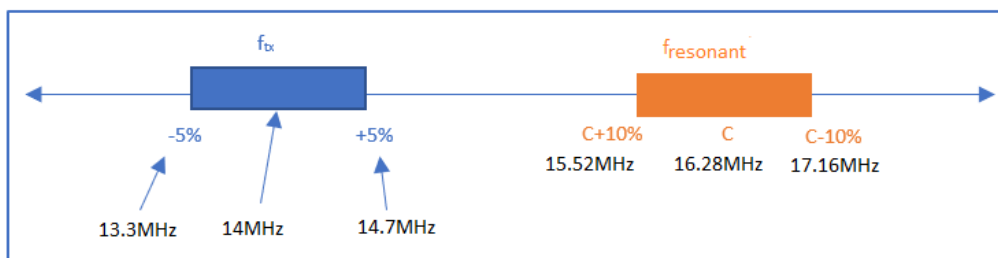

Figure B.1: Inductive Resonant Tank Design
- > Using $\pm 10\%$ tolerance on C_{sel} and $f_{resonant} = \frac{1}{2\pi\sqrt{L \times C}} = \frac{1}{2\pi\sqrt{1.1 \times 10^{-6} \times C_{sel}}}$, we get the results below and the summary of the result shown in Figure B.1.